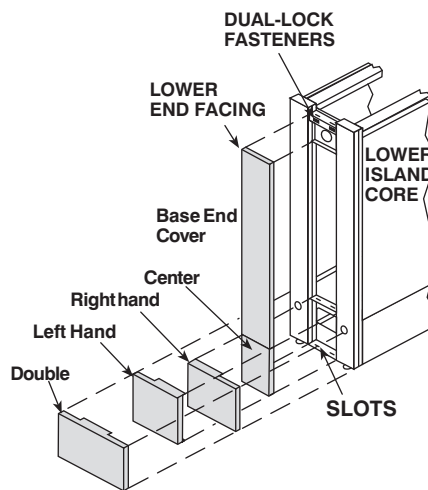

Figure 2
2. Attach base end facing by inserting tabs into slots on end of island core. Press down firmly. See Fig. 2.
3. To attach lower end facing, place "Dual-Lock" fasteners on channel on end of island core. Clean painted surface with solvent before applying "Dual-Lock" patches. Insert tabs of lower end facing into slots on end of island core and press top of facing to engage fasteners. See Figure 2.